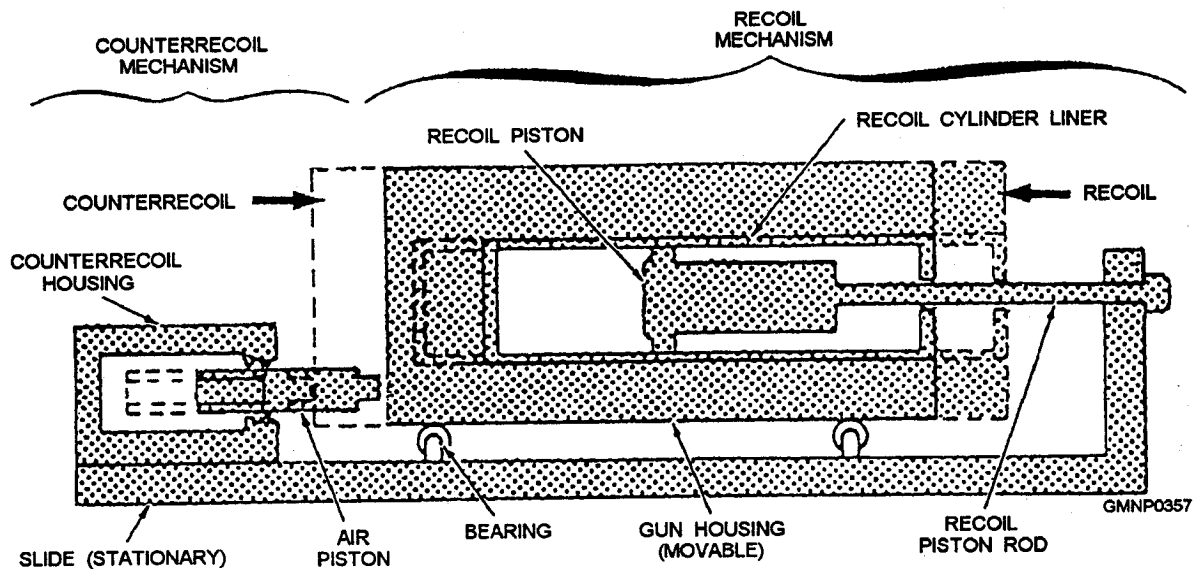

Figure 6-10.—Recoil and counterrecoil systems.
**Recoil System**—Normally, a recoil system (fig. 6-10) consists of two stationary pistons attached to the slide, set in a liquid-filled cylinder in the housing. As the housing moves rearward in recoil, the trapped liquid is forced around the piston head through metered orifices, slowing the movement of the housing.